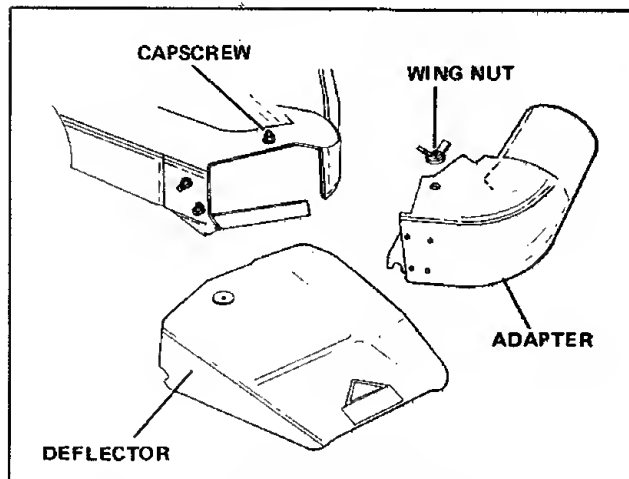

Figure 7. Replacing Mower Deflector
5. Replace deflector on mower housing, holding it in place with the wing nut used to hold the adapter, and the hardware in the rear hole removed from the mower housing when the deflector was removed. (See figure 7.)